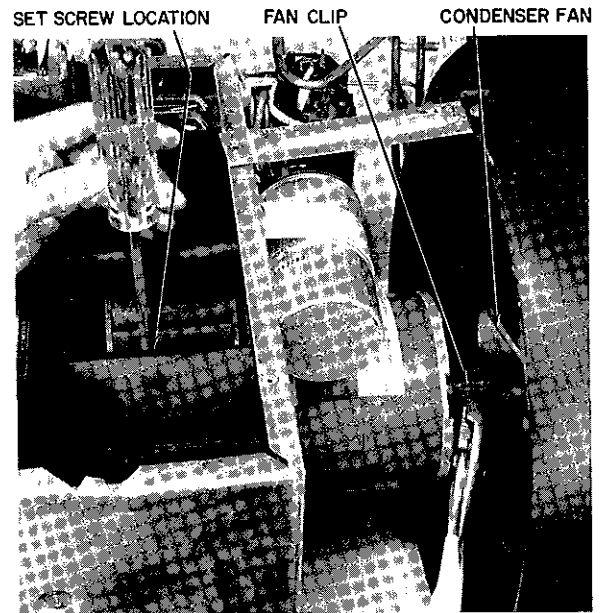

Fig. 14 — Blower Set Screw and Condenser Fan Clip
- a Loosen set screw on blower wheel. See Fig 14.
- b Remove clip from condenser fan. See Fig 14.
14 Condenser Fan — See Condenser Fan in Fig 14
- b Remove clip from condenser fan as shown in Fig 14.
- 15 Evaporator Blower** — See Evaporator Blower in Fig 14